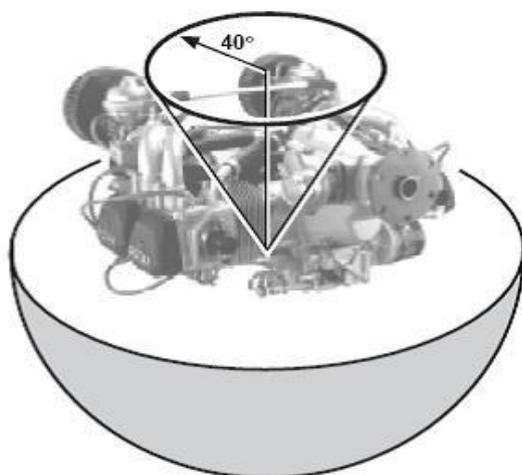

Fig. 4
10. Banking of plane deviation from the effective vertical: See Fig. 4